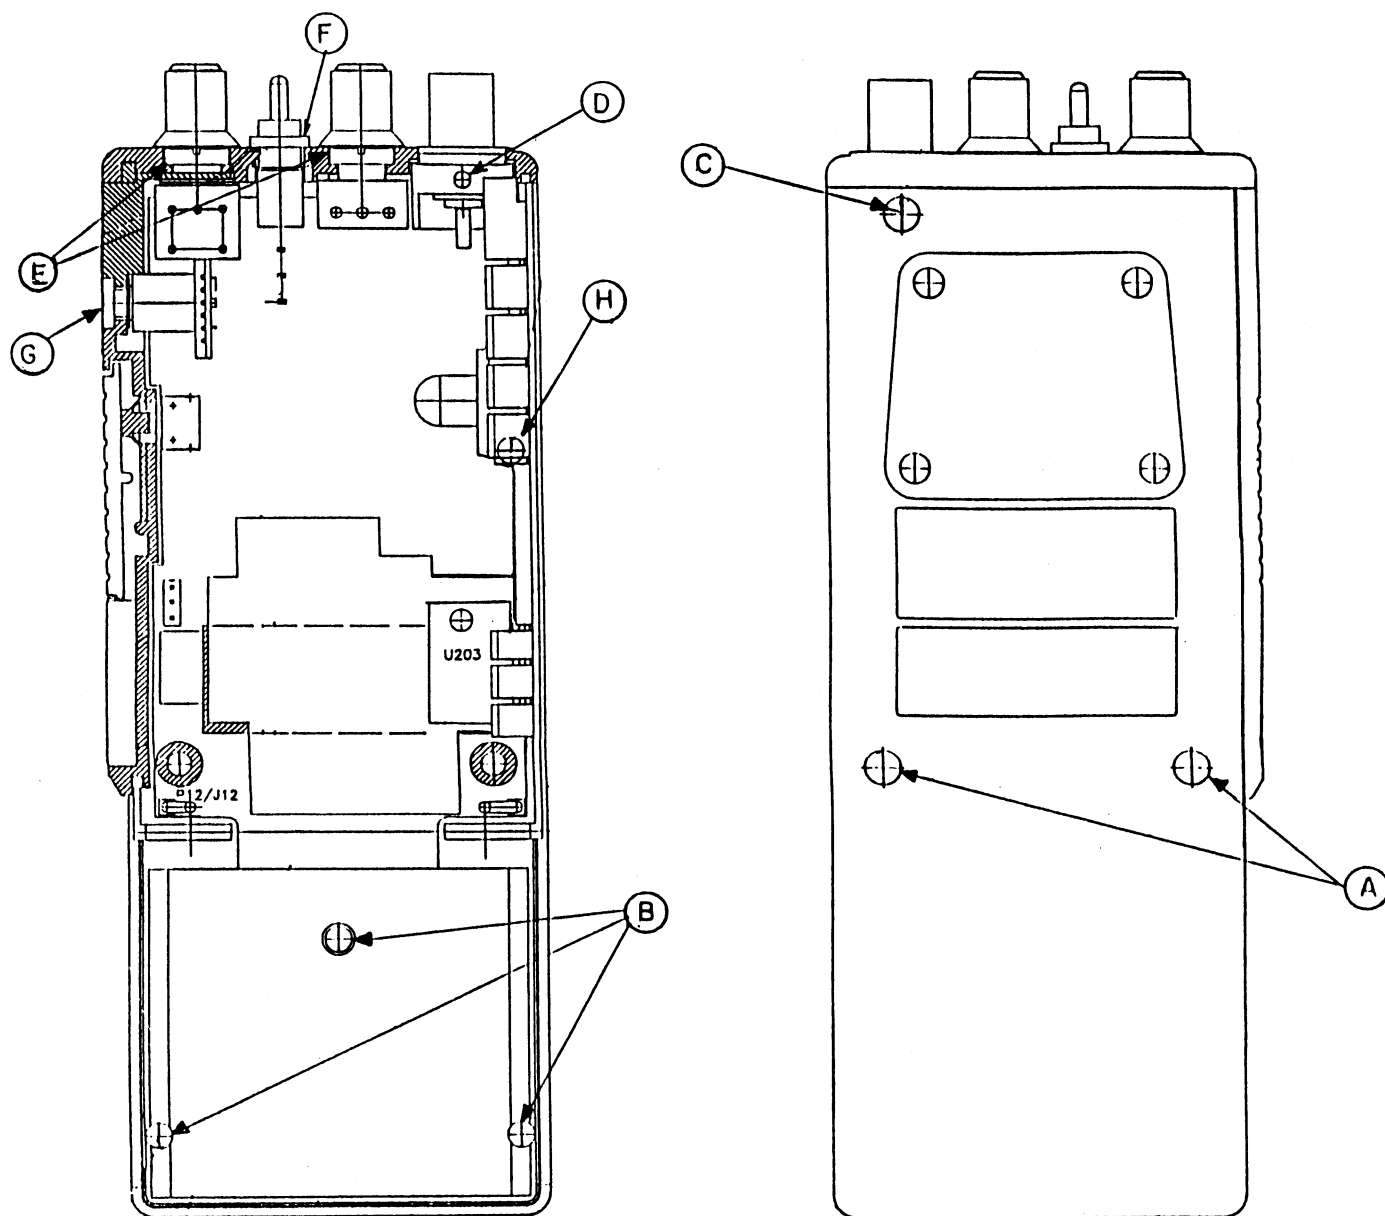

Figure 2 - Disassembly
2. Remove the two screws at (A) (See Figure 2).
5. To gain access to the microprocessor, remove the three screws at (B) and lift up the cover.
1. Remove the screw at (C) using a No.7 TORX screwdriver (See Figure 2).
2. Remove the four M2 pan head screws, 3 at (B) and 1 at (H), on the component side of the T/R Board using a No. 7 TORX screwdriver.